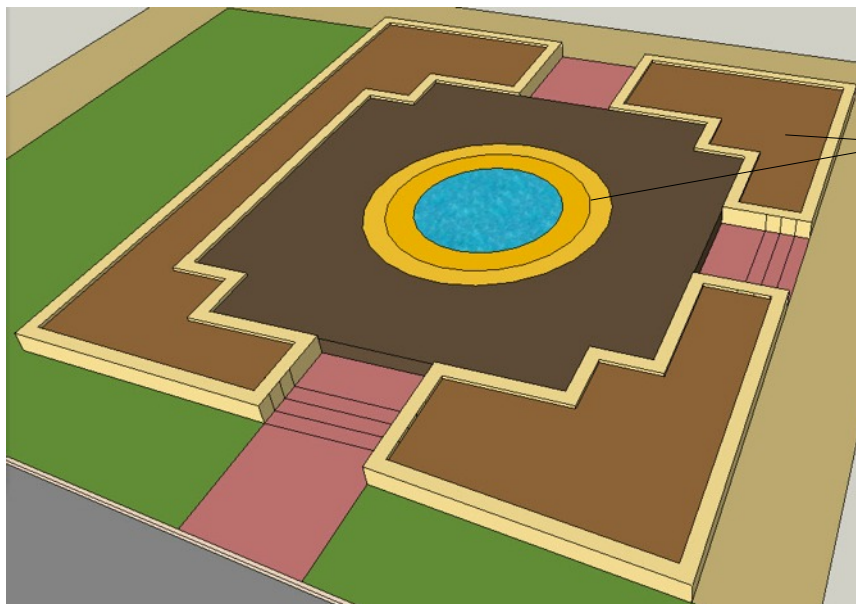

Figure 21. Central and planted areas raised with the Push/Pull tool
- Use **Push/Pull** to raise the areas contained within the walls by 500mm as shown in Figure 21.
- Use **Push/Pull** to raise the pond, the concentric circles and the areas adjacent to the circles again by 500mm as shown in Figure 21.